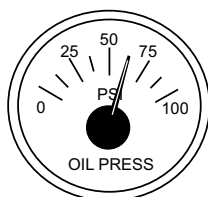

Figure 51. Oil Pressure Gauge
7. The **engine oil pressure gauge** (Figure 51) will indicate the oil pressure of the engine. Under normal operating conditions the oil pressure should be between 42.1 and 85.6 psi (290–590 kPa).